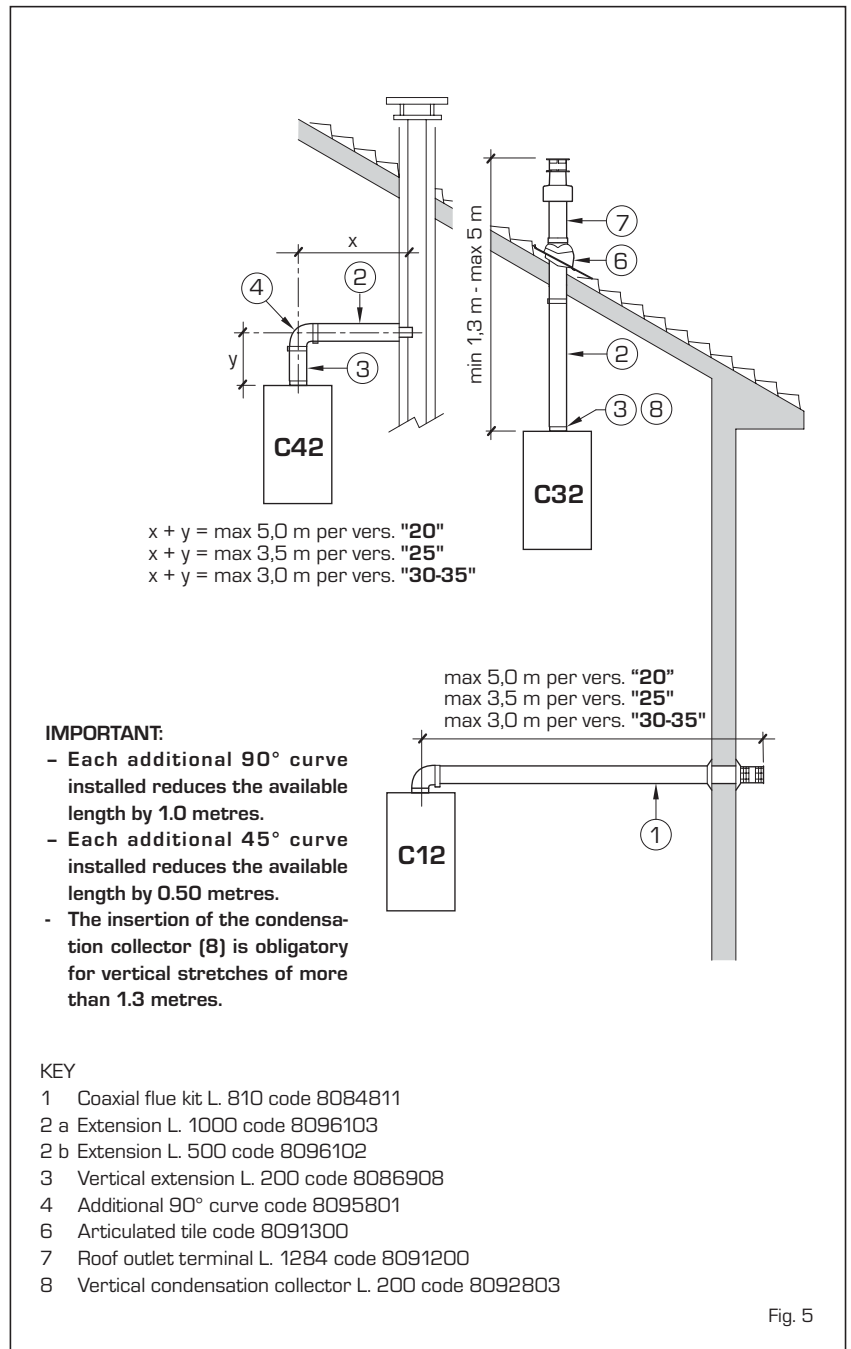

Fig. 5
2.7.1 Accessories 60/100 (fig. 5)
The 60/100 coaxial duct is supplied on request in kit code 8084811. The diagrams of fig. 5 illustrate some examples of different types of discharge modalities allowed and the maximum lengths that can be reached.
2.7.2 Diaphragm for 60/100 coaxial duct (fig. 5/a)
The boiler is supplied with a diaphragm of 79 (version 25 BF), 81 (version 30 BF). Use the diaphragms according to the indications of fig. 5/a.